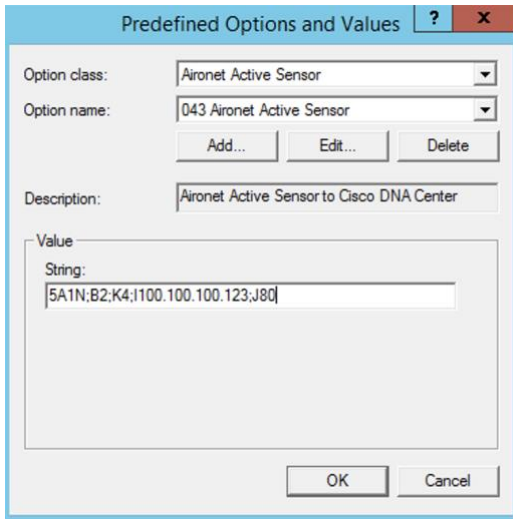

Figure 27.
6. Within the **String** input field, enter the following: 5A1N;B4;K4;I<Cisco DNA Center IP>;J<Port Number>, then hit **OK** (**Figure 27.**).